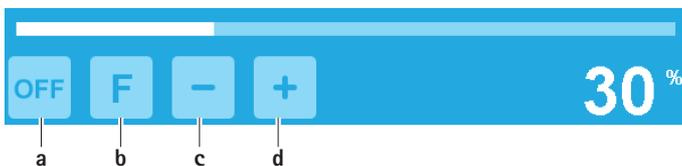

Fig. 7 Activating the irrigation pump/"Flush" function
- ▶ Activate the irrigation pump: Activate the button for switching on the irrigation pump **a**, see Fig. 7.
- ▶ Deactivate the irrigation pump: Activate the button for switching off the irrigation pump **a**, see Fig. 7.